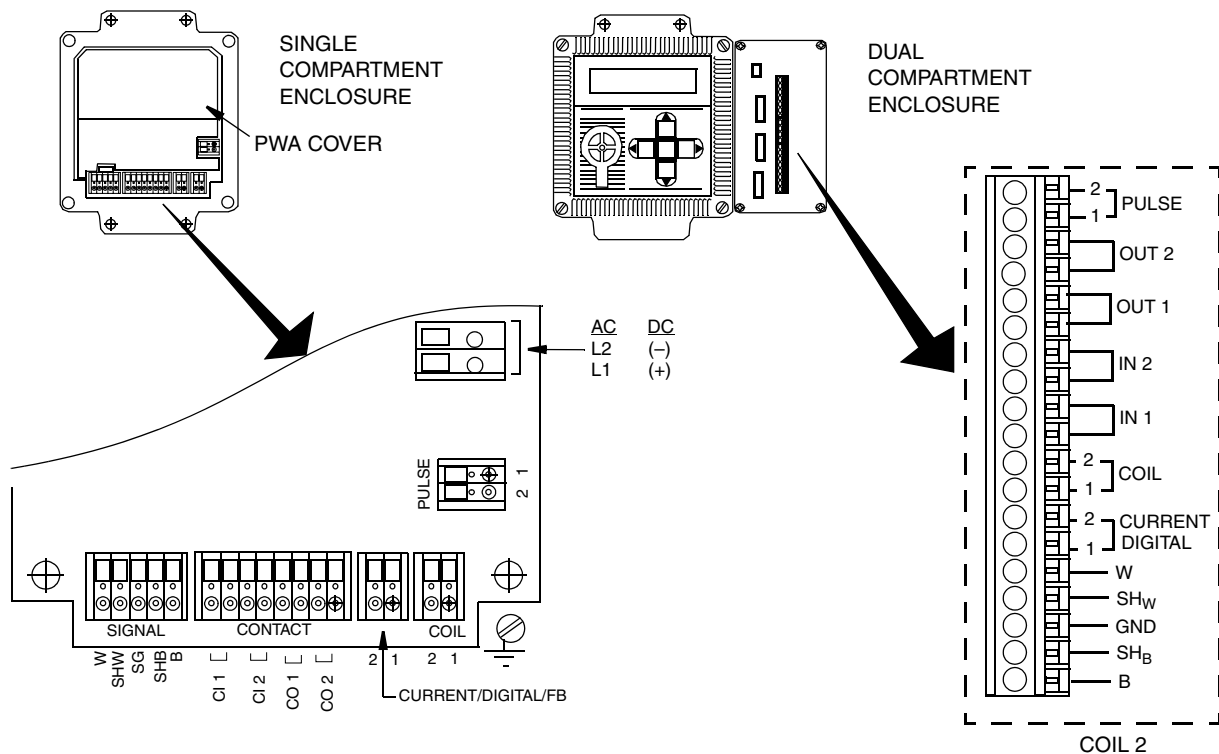
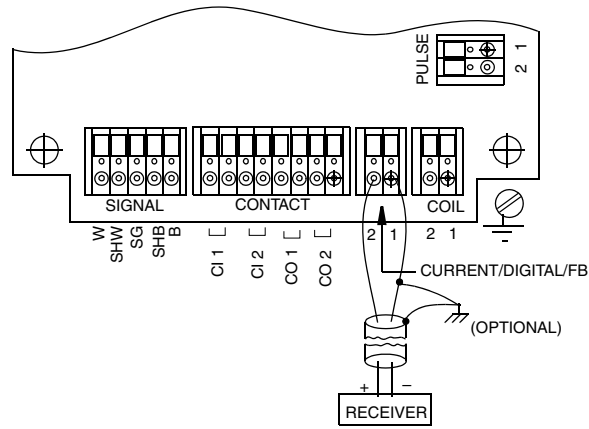

Figure 23. Location of Current Output and Pulse Output Terminals
Figure 25. Current Output Wiring - Internal Power
1. Run signal wires (0.50 mm² or 22 AWG, typical) through the predetermined conduit connection on the transmitter. Connect wires to transmitter current/digital terminals shown in Figure 23. Use twisted signal pair to protect the digital output and/or remote communications from electrical noise. Shielded cable is required in some locations.
Locations of current output and pulse output terminals are shown in Figure 23. Wiring to these terminals is shown in Figures 25 through 28.